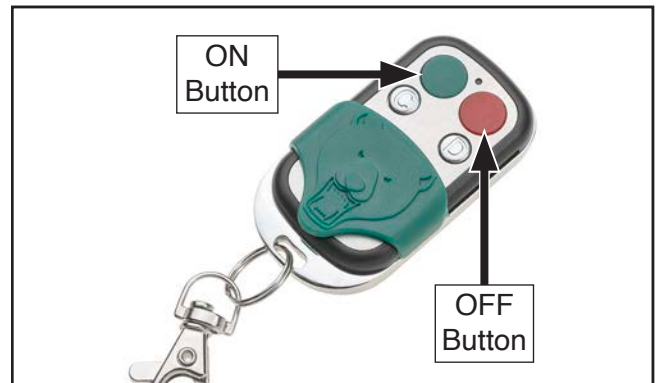

Figure 37. Location of remote control buttons.
6. Press green remote button (see **Figure 37**) to turn machine **ON**. Verify motor starts up and runs smoothly without any problems or unusual noises.